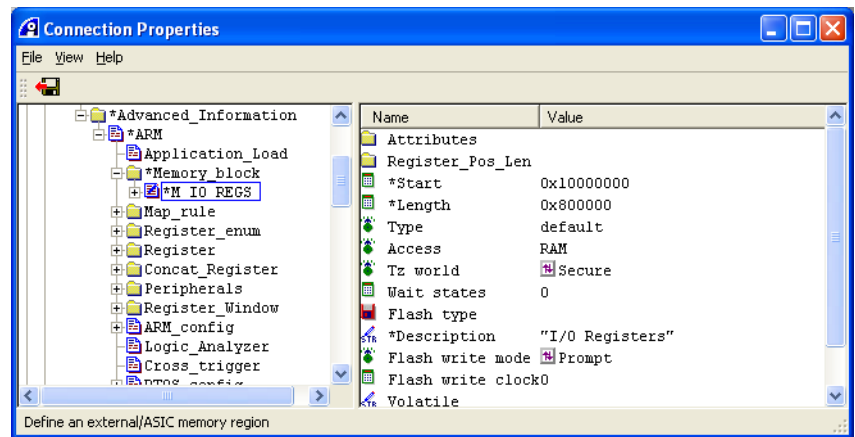

Figure 5-9 Configuring the M\_IO\_REGS custom register
- d. Set Description to **I/O Registers**, shown in Figure 5-9 on page 5-16.